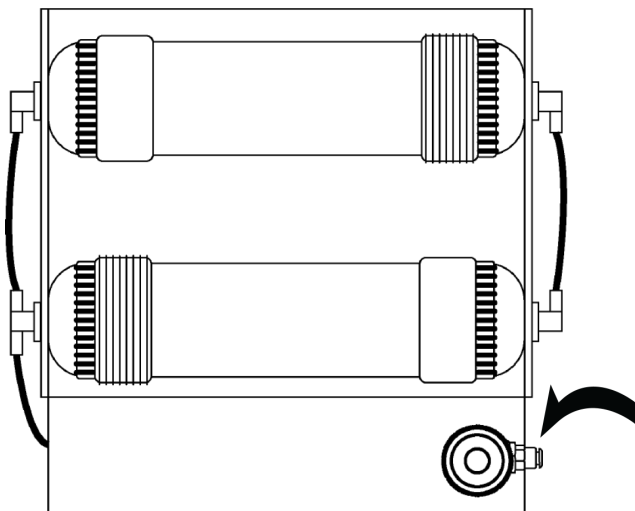

Fig 6. Water Pressure Regulator Connection
- Locate the Mains water connector (Fig 5) found inside the cabinet upon delivery. Insert mains water connector into water pressure regulator. (Fig 6 & 7)